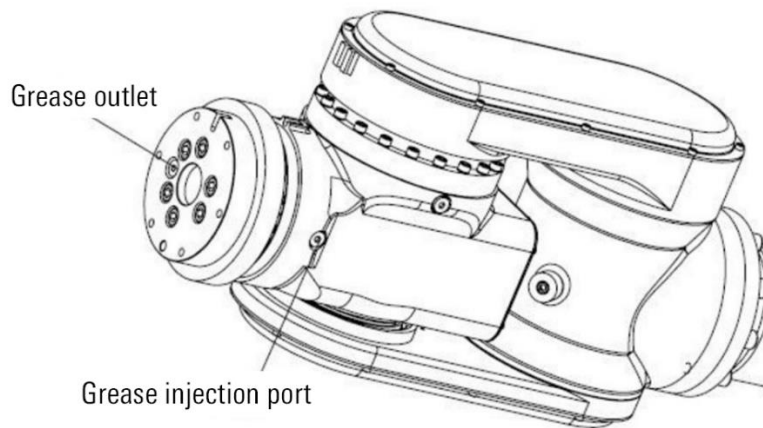

Figure 12-18 Replace the lubricating grease of the J6 axis reducer
- Step4. Remove the M10x1 plug from the grease outlet, as shown in Figure 12-18.